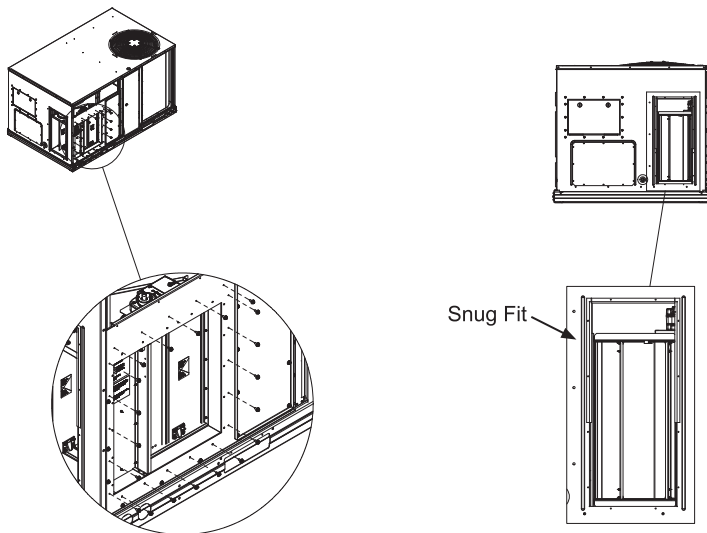

Figure 6 – Attach Economizer to O/A Panel
Step 10: If needed, attach filler panel. Slide under RTU top flange then drop down until bottom mount holes align with top holes on O/A panel. Use #10-16 5/16" sheet metal screws. See **Figure 6**.